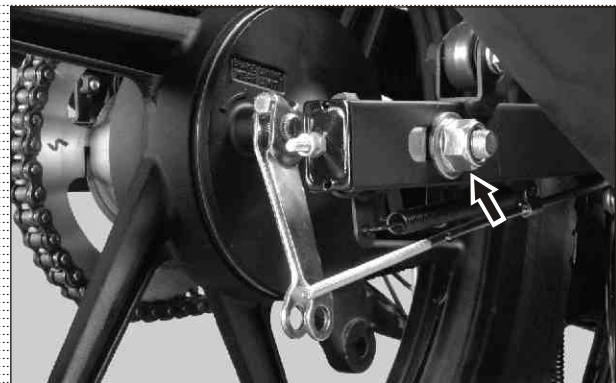

Fig. 2.84
- Loosen and remove 'U' nut (M14x1.5) from the axle complete rear along with the washer. (Fig. 2.84)